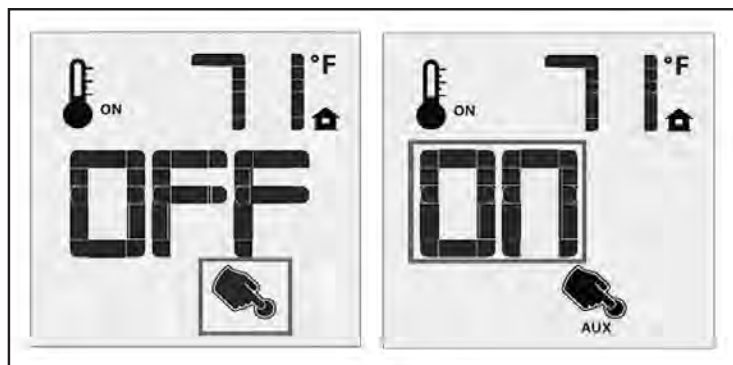

Figure 65: Remote Control with Aux for Accent Lights.
The DV62 is shipped with two (2) firebox accent lights. They are connected to the auxiliary power outlet of the Proflame Fan Control Module. The lights can be turned on or off using the Auxiliary function on your remote control. Press the Mode Key on the remote control until the Auxiliary Function icon is highlighted. Pressing the Up or Down arrow keys will turn the accent lights on or off. See Figure 65 for the AUX icon details. A single “beep” will confirm the reception of the command.